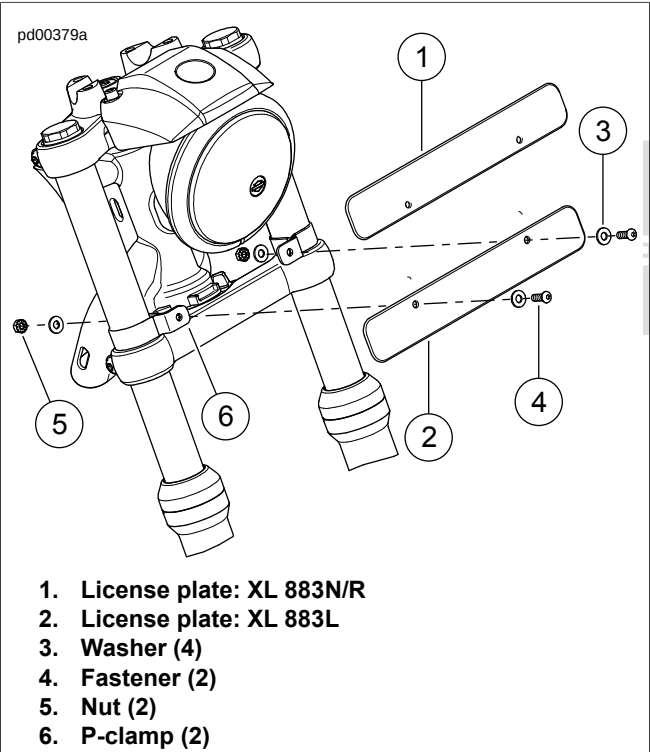

Figure 2-195. License Plate Mount: XL 883L/N/R (India)
1. See Figure 2-195. Install P-clamps (6) on fork tubes.
2. Install license plate to P-clamps and secure fasteners (4), washers (3) and nuts (5).
- a. **XL 883N/R** (1)
- b. **XL 883L**, (2)